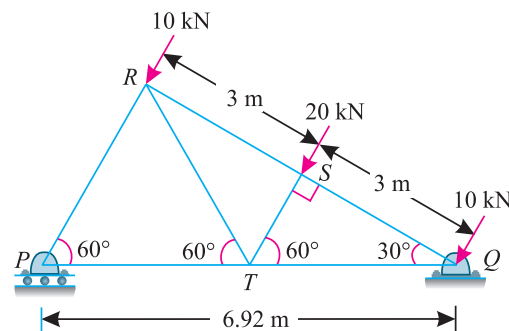

Fig. 14.45
**Example 14.18.** Figure 14.45 shows a north-light roof truss with wind loads acting on it.